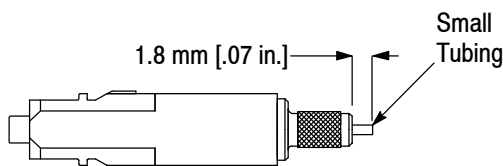

Figure 7
4. Insert the small tubing into the plunger of the plug assembly until it protrudes from the knurled end of the plug assembly to the dimension given in Figure 7.